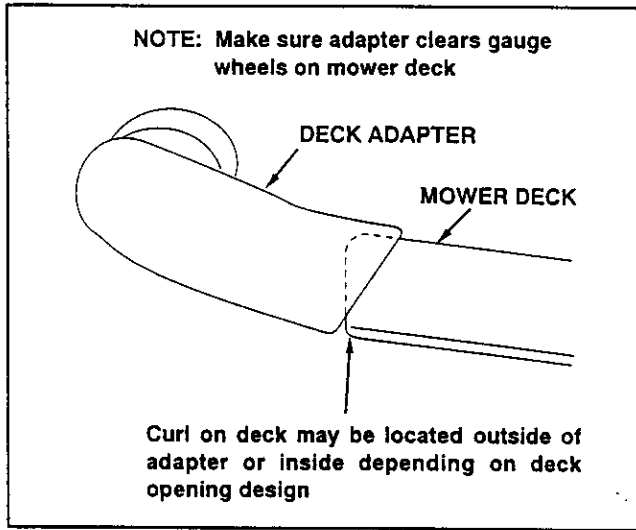

FIGURE 30
- Position the adapter over the deck opening, and check for fit of cutout as shown in figure 30. Trim cutout, if necessary, to allow tilting of adapter, keeping the fit as close as possible for best vacuum suction.